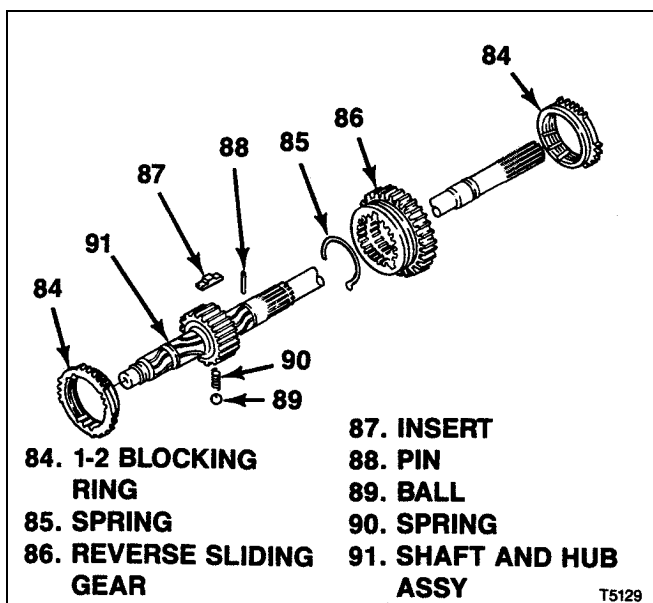

Figure 7-7. T5 STD Output Shaft Assembly
- a. Start reverse idler shaft (98) in through rear opening in transmission case (106) with pin hole in shaft pointing up toward top case opening.
- b. Position o-ring (100) and reverse idler gear assembly (99) in transmission case (106) and continue to push reverse idler shaft (98) into case, through gear, o-ring and boss inside case.
- c. Install roll pin (97). Using suitable drift, tap pin into reverse idler shaft (98) until pin is centrally located in shaft.
- d. Install thrust washer (96). Install snap ring (95) in groove in countershaft gear (105).
- 2. Install hook (93) in fork, pin and roller assembly (94B) and spring (92B) on hook. Position these parts in transmission, engaging fork with groove in reverse idler gear.
**7-10. ASSEMBLY OF T5 STD OUTPUT SHAFT ASSEMBLY.** On work bench, assemble output shaft assembly as follows (see figure 7-7):